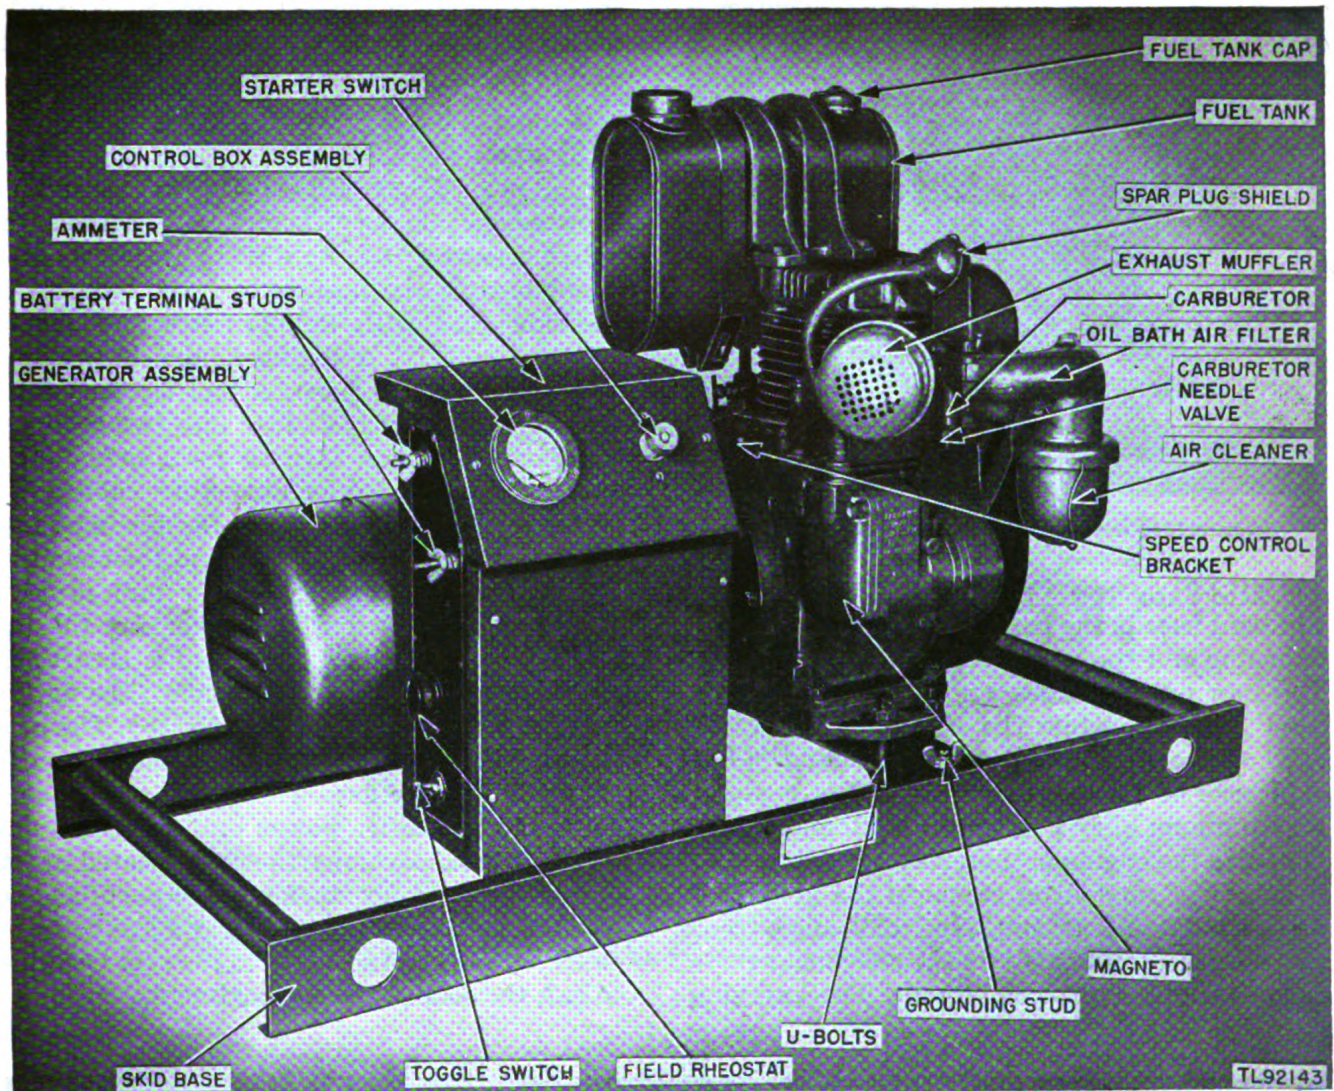

Figure 12. Power Unit PE-49-G from control box side.
f. CONTROL BOX ON POWER UNIT PE-49-G (fig. 12). The control box on Power Unit PE-49-G is similar to that on Power Unit PE-49-F with the exception of an added resistor which is in parallel with the field switch. (See fig. 59.)